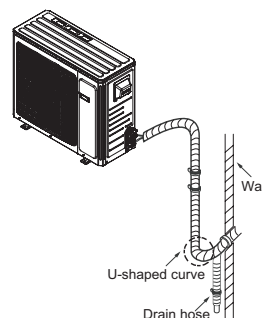

Fig.24
- (1) The pipes should be placed along the wall, bent reasonably and hidden possibly. Min. semidiameter of bending the pipe is 4 inch.
- (2) If the outdoor unit is higher than the wall hole, you must set a U-shaped curve in the pipe before pipe goes into the room, in order to prevent rain from getting into the room.(As show in Fig.24)